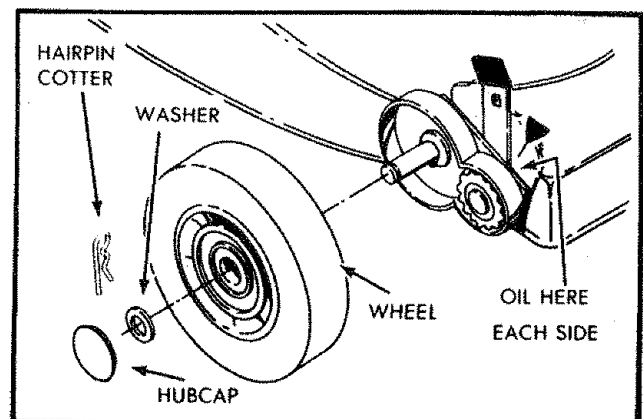

FIG. 25
**FRONT WHEEL ADJUSTERS:** Put a few drops of the same oil as used in the engine on the front wheel adjusters once or twice each year (See Fig. 25).
2. If necessary to clean the drive wheels (See Fig. 25) check both front wheels.